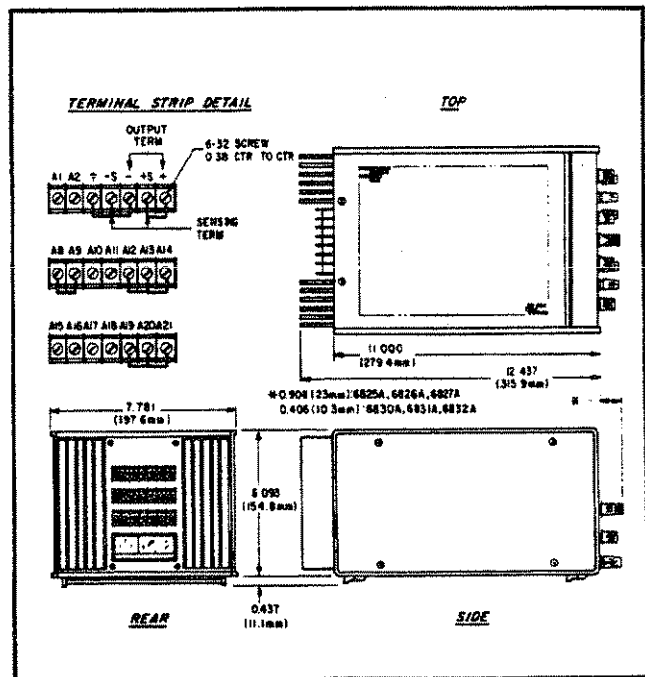

Figure 2-1. Outline Diagram
<p>Input Power: 104-127/208-254Vac (switchable), 48-63Hz, 1.0A, 150W</p> <p>Meters: Individual voltage and current meters. DC accuracy is 3% of full scale. AC accuracy is 5% of full scale with sinusoidal, 100Hz input.</p> <p>Meter Ranges (DC): $\pm 2.4V$, $\pm 24V/\pm 0.24A$, $\pm 2.4A$</p> <p>Meter Ranges (AC): 1.6V (uncal), 16V rms/0.16A rms, 1.6A rms</p> <p>Temperature Ratings: Operating: 0 to 55°C. Storage: -40 to +75°C.</p> <p>Cooling: Convection cooling is employed. The supplies have no moving parts.</p> <p>Dimensions: See outline diagram, Figure 2-1.</p> <p>Weight: 18 lbs. (8.2 kg.) net, 21 lbs. (9.5 kg.) shipping.</p>	<p>Source Effect (Line Regulation) Continued: Voltage (X1 Range): .01% + .2mV Voltage (X4 Range): .01% + 2mV Current: .01% + 250μA</p> <p>PARD (Ripple and Noise): Rms/p-p (20Hz to 20MHz) at any line voltage and under any load condition within rating. Voltage (X1 Range): 1.5mV rms/4mV p-p Voltage (X4 Range): 5mV rms/15mV p-p Current: 3mA rms/10mA p-p</p> <p>Temperature Coefficient: Output change per degree Centigrade change in ambient following 30 minutes warm-up. Voltage (X1 Range): .01% + .35mV Voltage (X4 Range): .01% + 1.5mV Current: .02% + 100μA</p> <p>Drift (Stability): Change in output (dc to 20Hz) over 8 hour interval under constant line, load, and ambient following 30 minutes warm-up. Voltage (X1 Range): .03% + 1mV (Pot wiper jump effect may add 5mV) Voltage (X4 Range): .03% + 5mV (Pot wiper jump effect may add 50mV) Current: .1% + 200μA (Pot wiper jump effect may add 1.5mA)</p>
2-14 Figure 2-1 illustrates the outline shape and dimensions of the BPS/A.